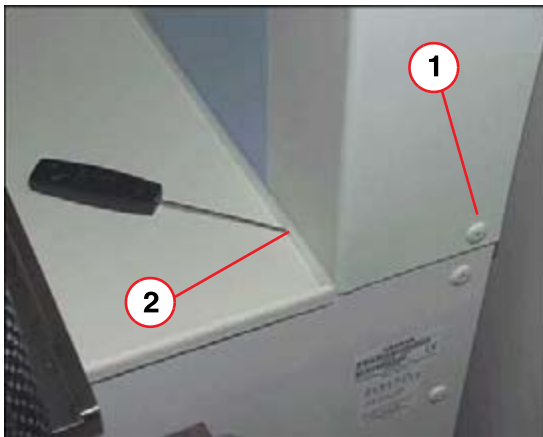

Fig. 97: Securing the tower cover
- Attach the tower cover via the supplied screws (1/Fig. 97 / p. 81).
Make sure that the rubber seal is properly seated on the covers (2/Fig. 97 / p. 81).